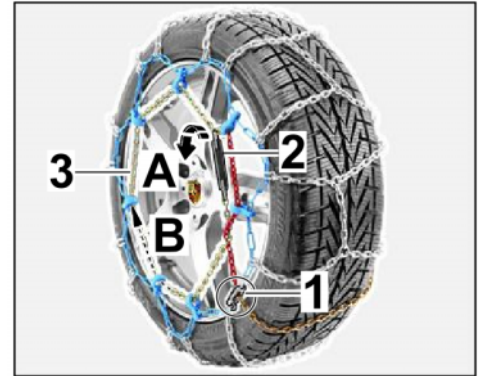

Figure 13
3.2.1 To make it easier to remove the snow chain: Drive/roll the vehicle until the locking plate for the snow chain is positioned according to ⇒ *Figure 13-Circle-*.
3.2.2 Disengage bungee cord with hook from the chain link (⇒ *Figure 13-A-*).
3.2.3 Feed the tensioning chain through the plastic eyelets as far as the locking plate (⇒ *Figure 13-B-*).